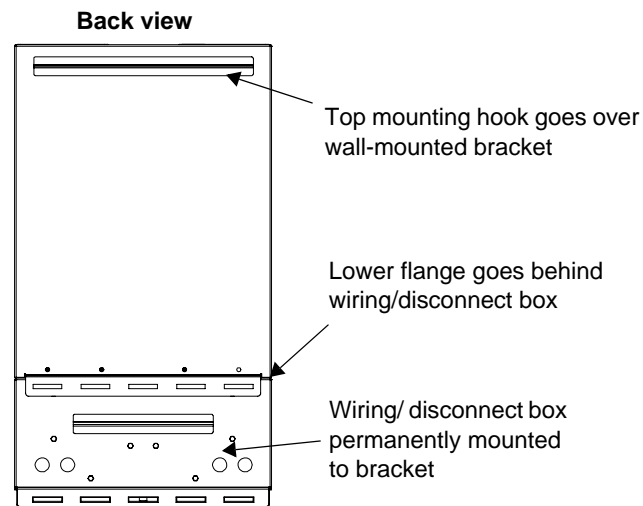

Figure 6-4 Inverter and Wiring/Disconnect Box Sections
2. Mount the inverter on the upper mounting bracket above the wiring/disconnect box, ensuring that the inverter's lower flange goes behind the wiring/disconnect box. See Figure 6-4.